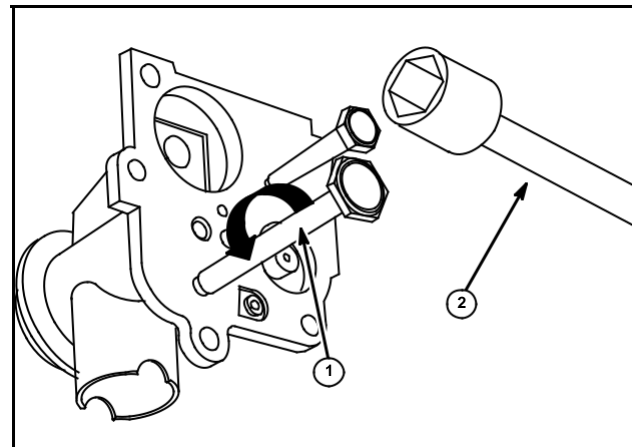

Fig. 34
Thread tubes into carburetor body using either a 3/8" or 9/16" wrench or socket, Fig. 34. No sealant is required on threads of tubes.
1. Thread tube into carburetor body using a 3/8" wrench or socket (2), Fig. 34. No sealant is required on threads of tube.